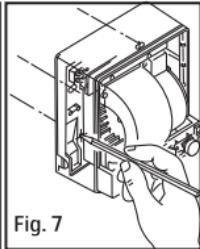

Fig. 7
4. Hold the back panel against the wall/ceiling and mark the four screw holes, and then tighten the fan screws, Figs. 7 and 8.